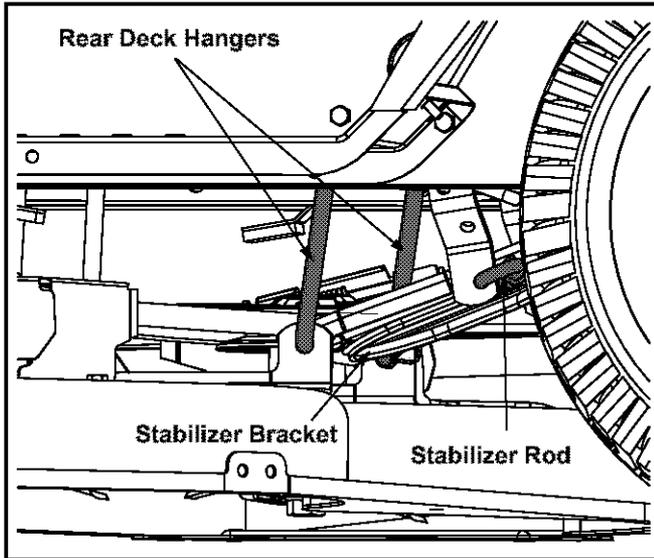

Figure 27
- Remove the hairpin clips which secure the rear deck hangers to the deck stabilizer bracket. See Figure 27. Retain the hairpin clips.
NOTE: The style and shape the stabilizer bracket and stabilizer rod vary. Yours may differ slightly from that shown in Figure 27.
NOTE: For normal service and maintenance, the deck stabilizer bracket doesn't need to be removed from the tractor. If removing the cutting deck in order to mount a Snow Thrower attachment, however, the stabilizer bracket must be removed. To do so, simply remove the hairpin clip which secures the stabilizer rod to the stabilizer bracket. See Figure 27.